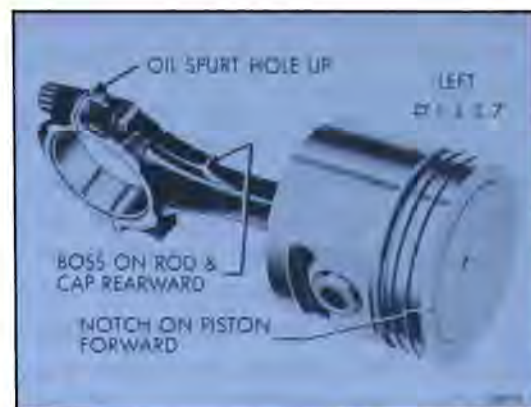

Figure 60-327—Left Bank Piston and Rod Assembly
2. If the piston and rod assembly is to be installed in the left bank, the assembly must be made as shown in Figure 60-327.